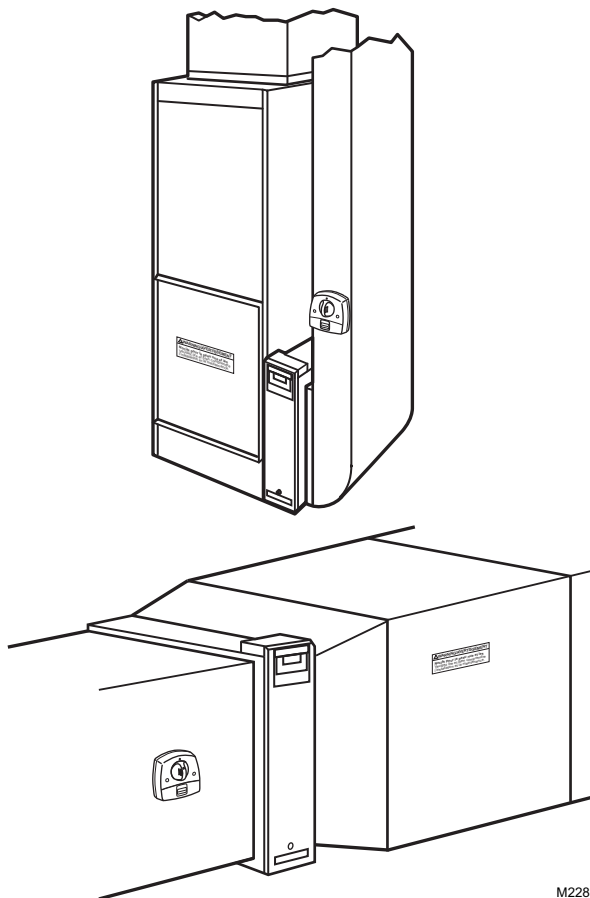

Fig. 1. Typical Air Treatment System installations.
Installed in the return air duct, the Air Treatment System kills a high percentage of airborne germs circulating through the forced air heating and cooling system. Individual results depend on careful installation and maintenance and on the actual amount of time the system fan operates. See Fig. 1.
1. Choose a location that is readily accessible for regular inspection and cleaning. Fig. 1 and 2 and show possible mounting locations.